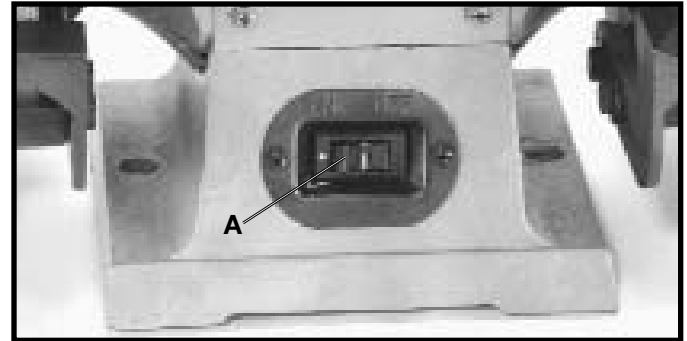

Fig. 13
The switch (A) Fig. 13, is located on the front of the grinder. To turn the grinder "ON" push the left hand portion of the switch and to turn the grinder "OFF" push the right hand portion of the switch.